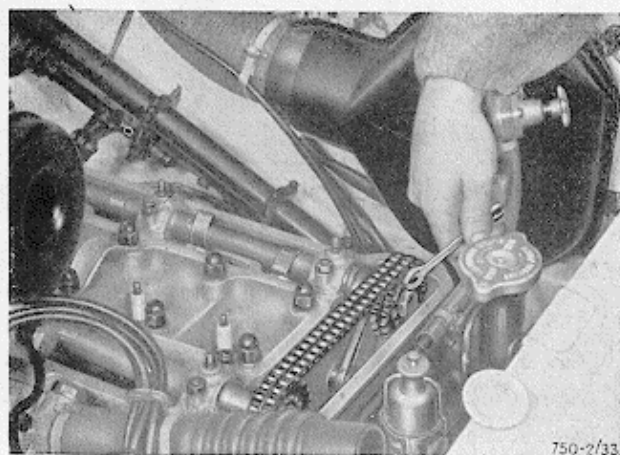

Fig. 33 - Bolt locking a sprocket on its camshaft
- 2) remove the small bolt holding down the cam-shaft driving sprocket (fig. 33);